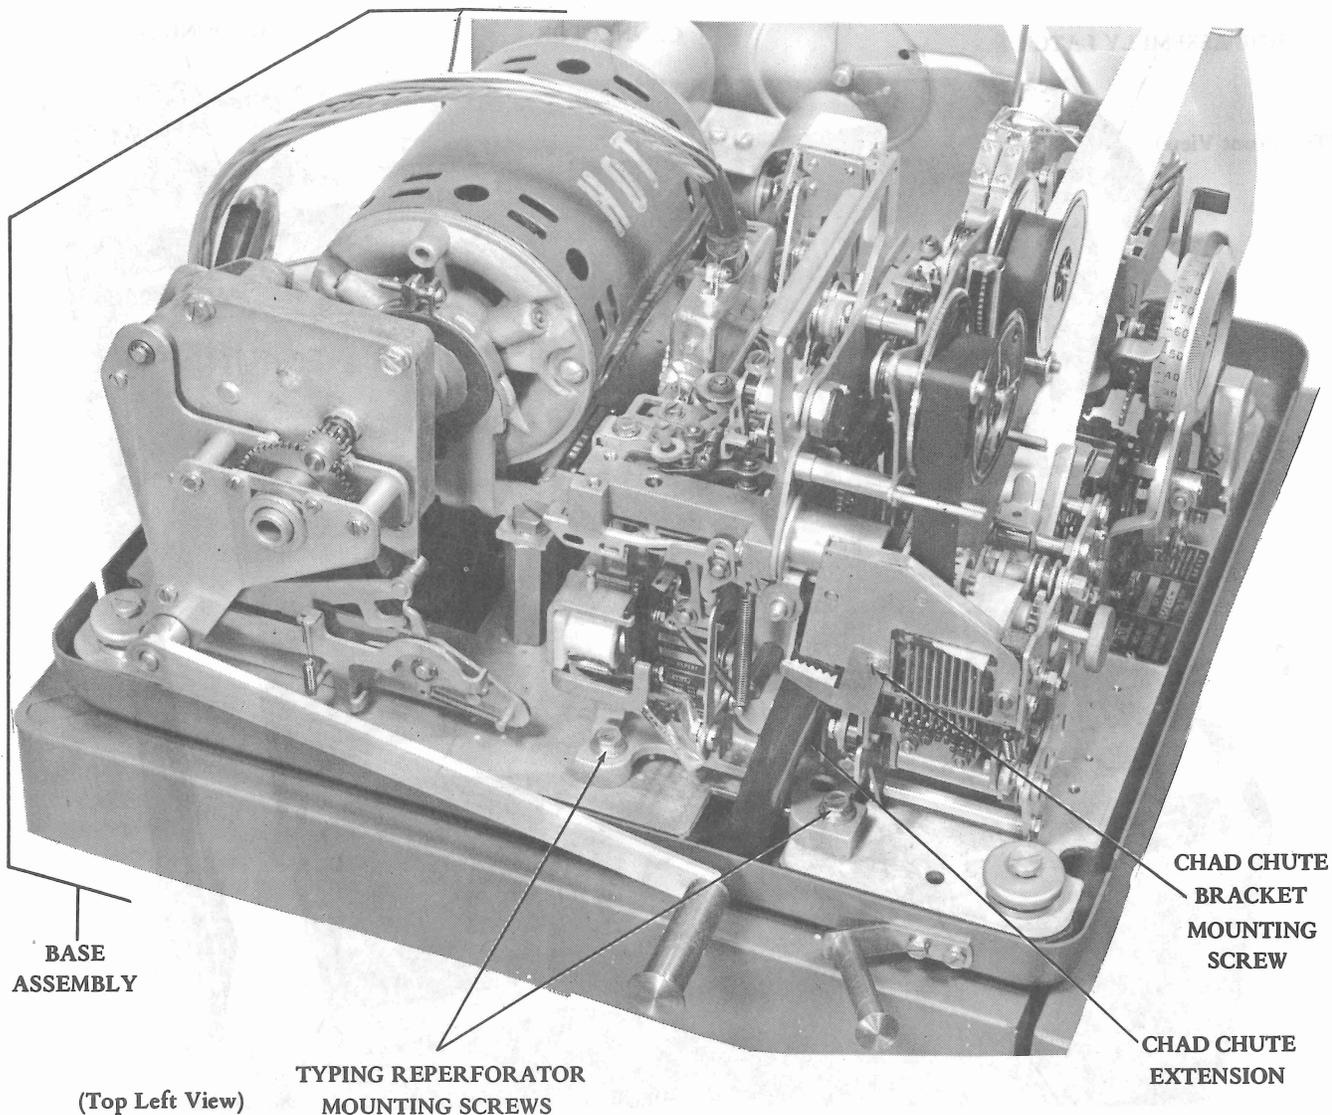

Figure 4 - Cover Removed Showing all Components
- 2.07 To remove the base assembly (Figures 4, 5 and 6), proceed as follows.